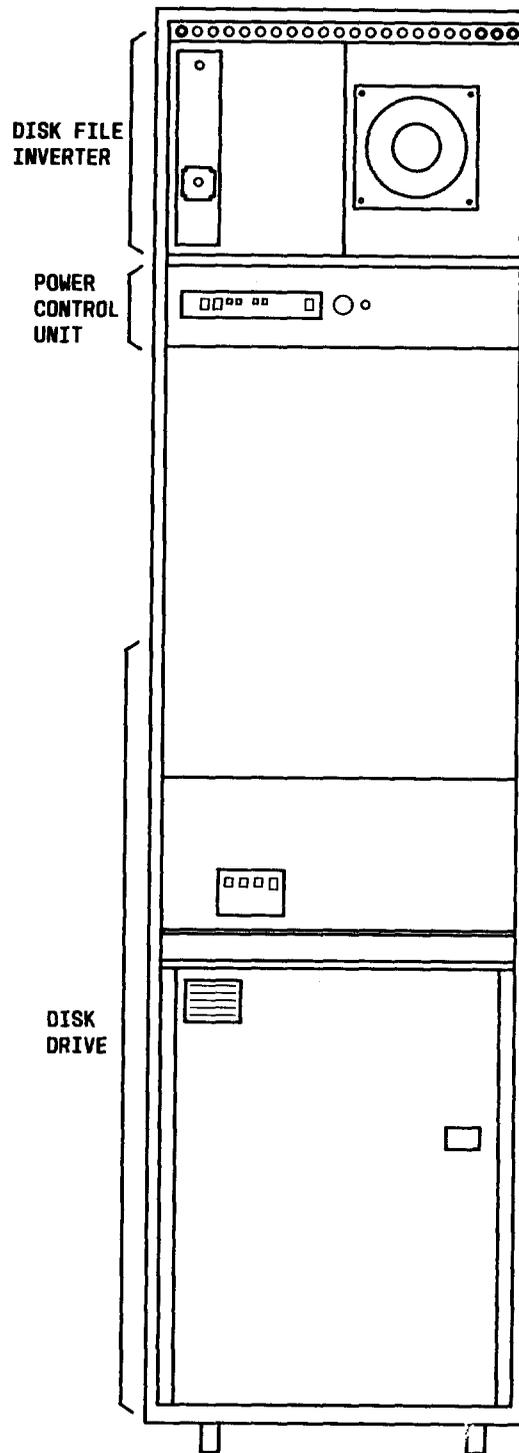
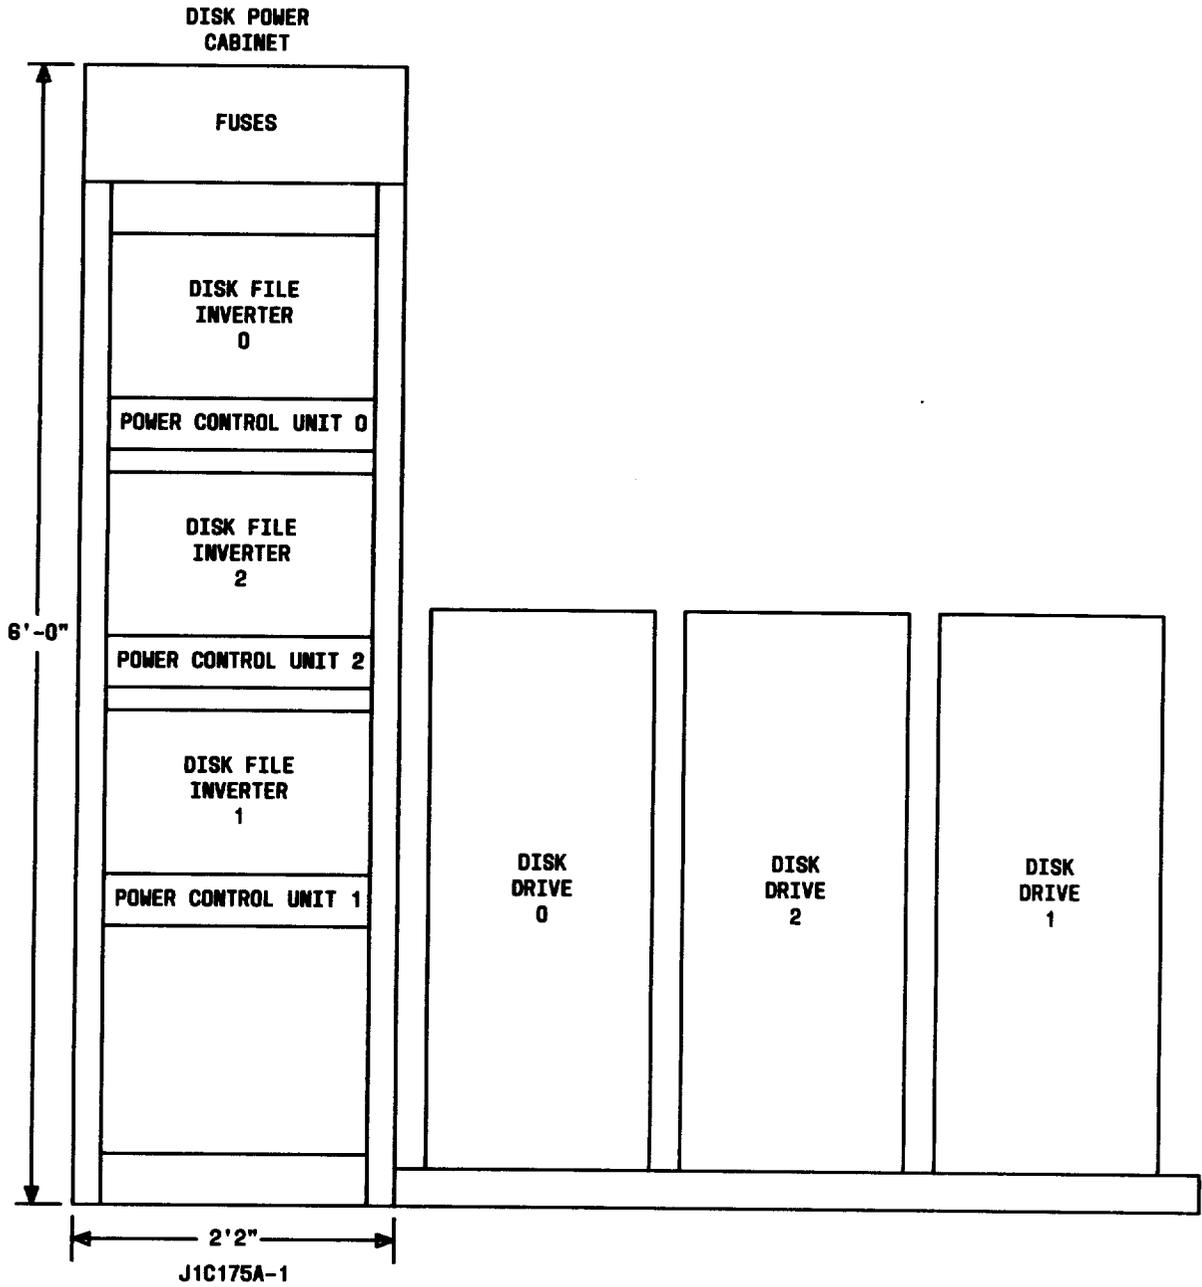

Fig. 1—Moving Head Disk Frame
Fig. 2—Disk Power Cabinet and Disk Drives
2.01 A disk drive can be located in a moving head disk frame (J1C131B-1) with an associated 2000VA disk file inverter (ED-4C172-30) and power control unit (J1C131AA-1). The frame is 7 feet high and 2 feet 2 inches wide (Fig. 1). A disk drive can also be located separately with an associated 6-foot-high disk power cabinet (J1C175A-1). The disk power cabinet contains a maximum of three 2000VA disk file inverters and three power control units (Fig. 2).